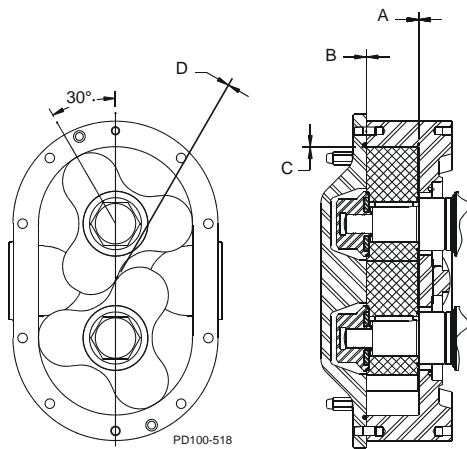

Figure 74 - Clearance Measurements
1. Measure the rotor backface clearance (Figure 74, item A) through the port or from the front. For optimum pump operation, the backface clearance for both rotors must be the same and must be $\pm .0005$ " of the value found in Table 8, below.
2. Measure the rotor front face clearance (Figure 74, item B).